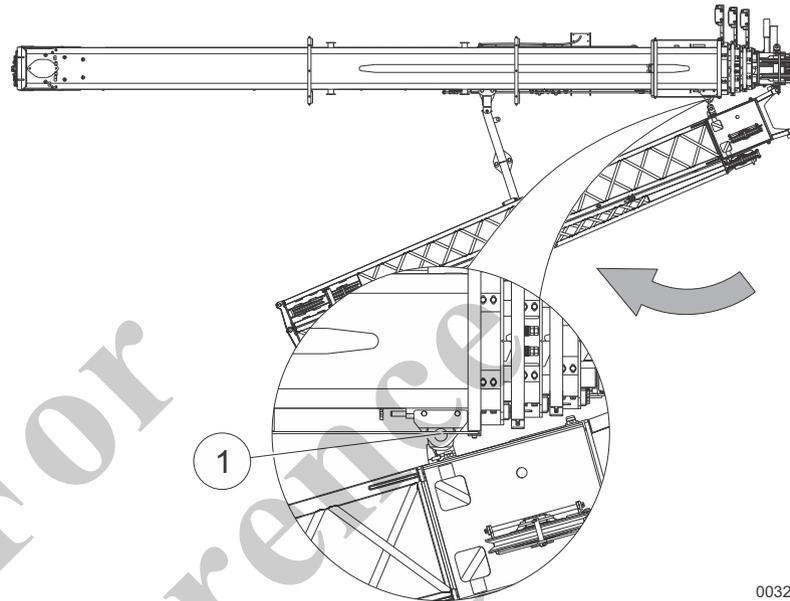

Fig. 145 Pulling the fly boom around
- 22 Use the rope to move the fly boom around until the lock openings on the fly boom align with those of the telescopic boom (1) in Fig. 145.